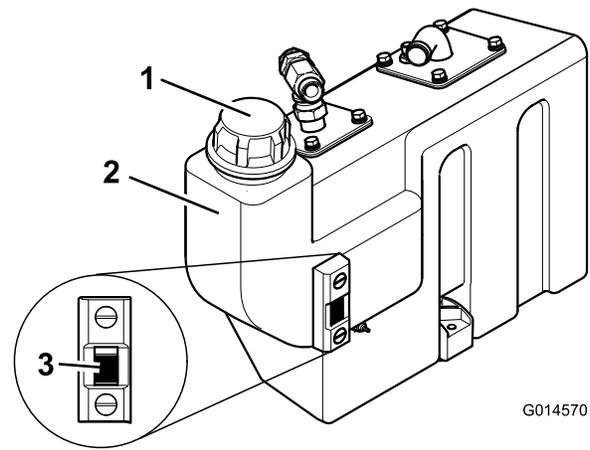

Figure 75
3. If additional hydraulic fluid is needed, clean the area around the filler neck and the cap of the hydraulic tank (Figure 75) and remove the cap.